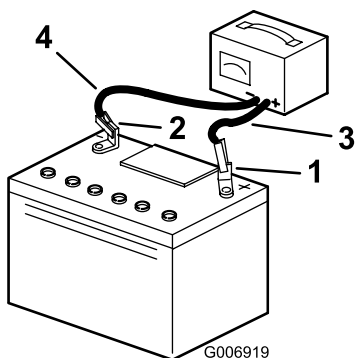

Figure 37
- Disconnect the charger leads from the battery posts (Figure 37).